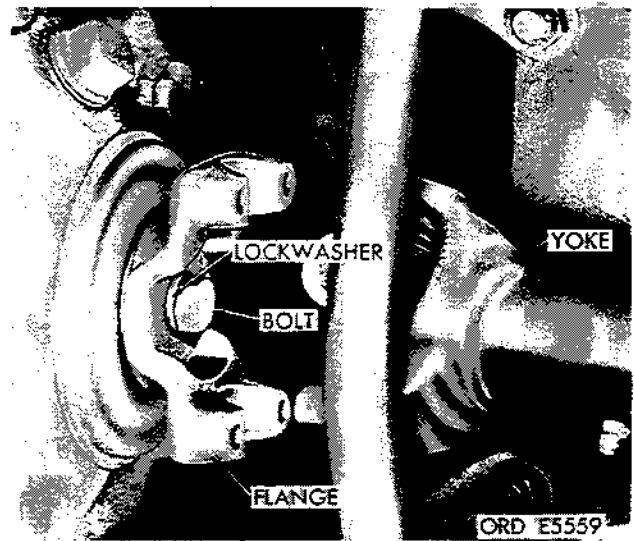

Figure 2-305. Remove differential side gear flange.
(2) Secure loose universal joint bearings with tape to keep them from falling off cross. Slide wheel drive shaft universal joint yoke toward wheel to separate universal joint from flange. Remove flange mounting bolt and lockwasher from differential side gear (fig. 2-305).
(3) Pull flange over side gear (fig. 2-305).